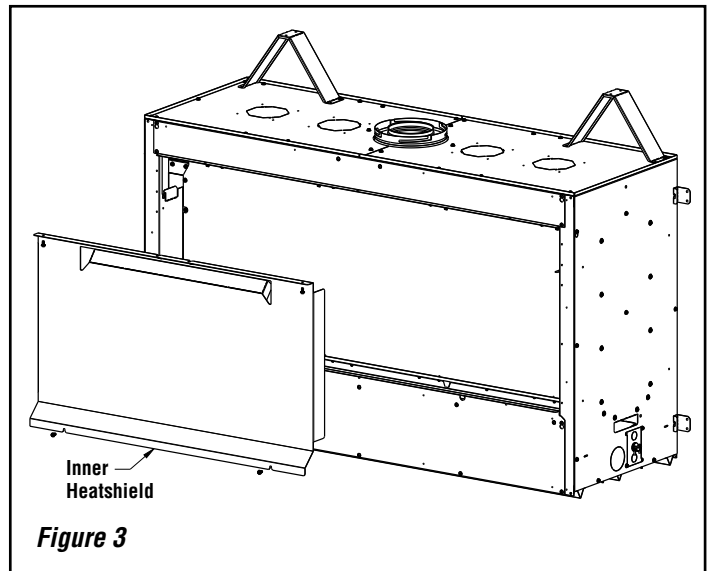

Figure 3
2. Locate the inner heatshield (see **Figure 3**). Loosen (DO NOT REMOVE) the top two (2) center mounting screws. Remove the remaining four (4) mounting screws. Slide the top of the heatshield rearward, then upward to remove. Re-tighten the top two (2) center screws.